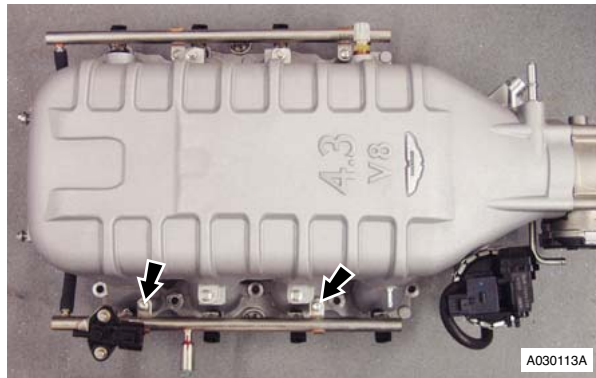

Figure 2
23. Remove fuel rail bolts (x2) and lift rail (tie aside) (see Figure 2).